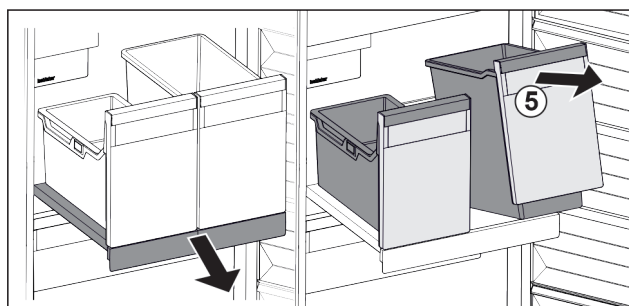

Fig. 29
- ▶ Lift the container Fig. 29 (5) at the front.